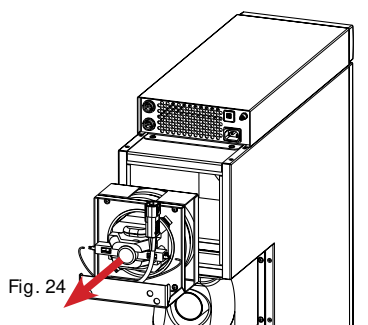

Fig. 24
- 4 the motor can then be pulled out to the rear (fig. 24).